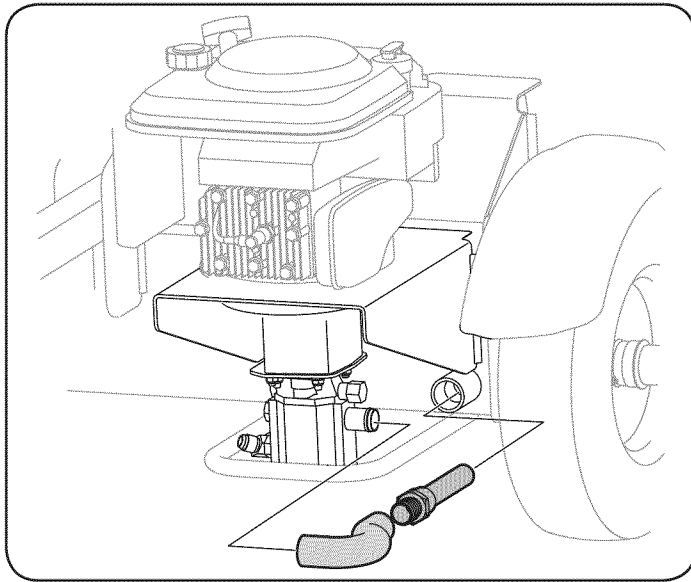

Figure 18
2. Carefully unthread the inlet filter and clean it with penetrating oil. See Figure 18.